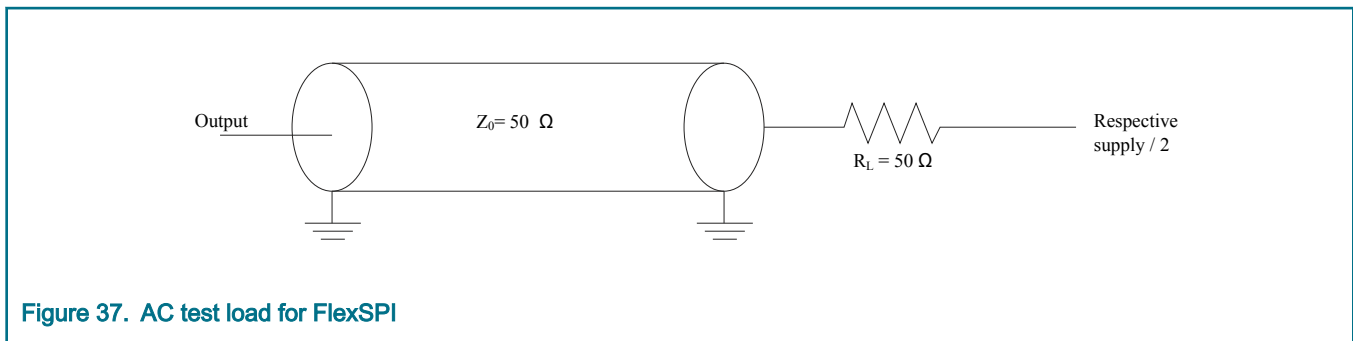

Figure 37. AC test load for FlexSPI
2. See Figure 37.
2. For DDR, Unit Interval (UI) is half of period. For example, 5 ns for 100 MHz
4. See Figure 37.